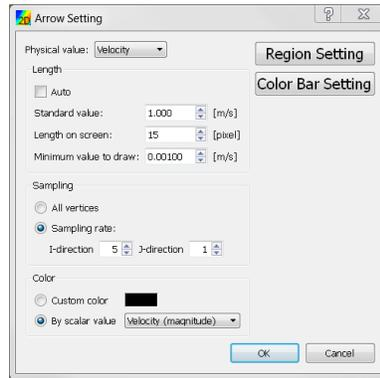

Figure 19. The Vector Attributes dialog.
- The default values for the vectors often need adjustment. From the **Menu Bar** select Draw ► Arrows to bring up the Vector Attributes dialog (Figure 19). The result is shown in Figure 20.